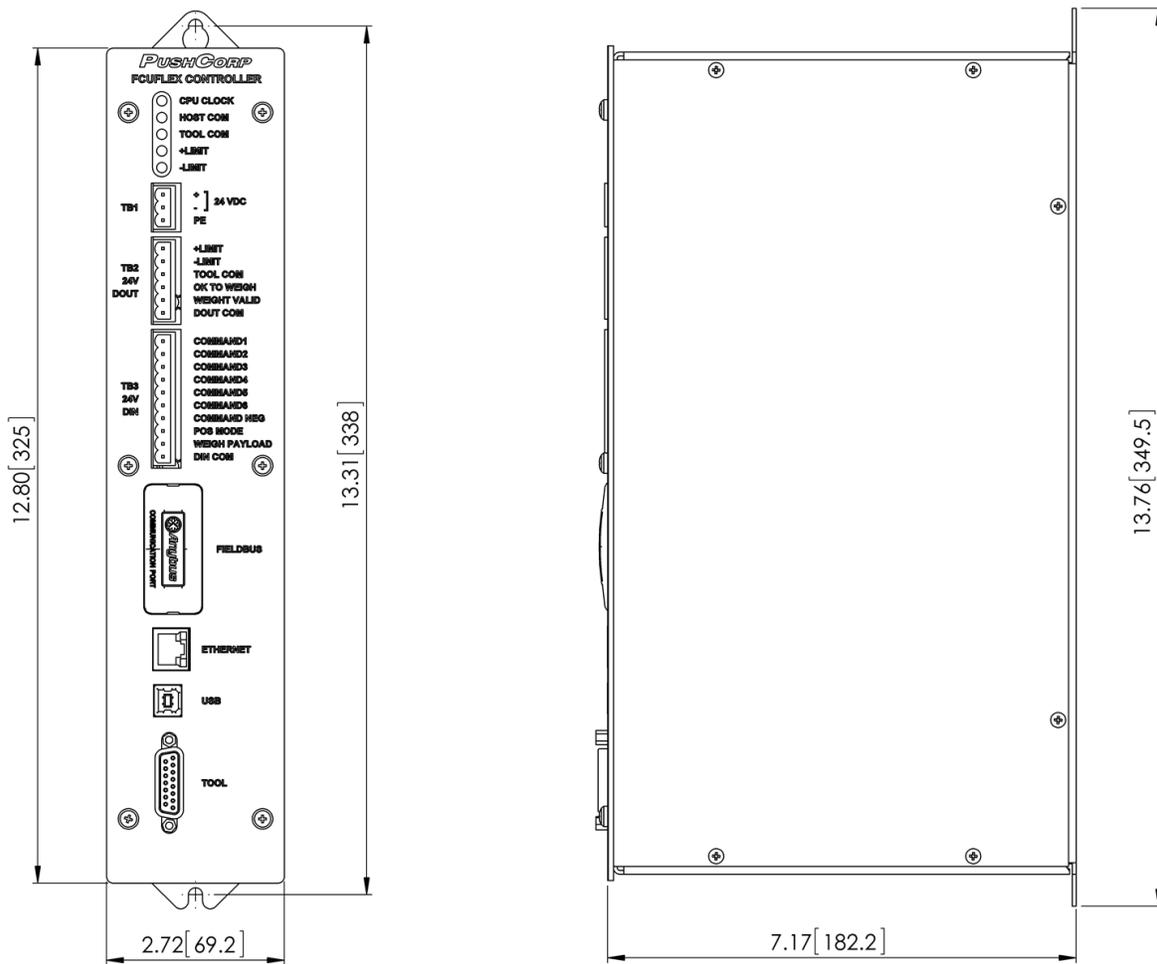

Figure 1: FCUFLEX Mounting Dimensions
The FCUFLEX is designed to mount to the back panel of most any standard control box enclosure. The controller has a key holed tab at the top and a slotted tab at the bottom. This allows the installer to mount two (2) fasteners in the back panel with the controller removed. With these fasteners mounted in the correct location, the installer can then easily slide the tabs over and down on to the fasteners. The drawing in Figure 1 shows overall dimensions and the proper location for the recommended M5 or 10-32 caphead fasteners.